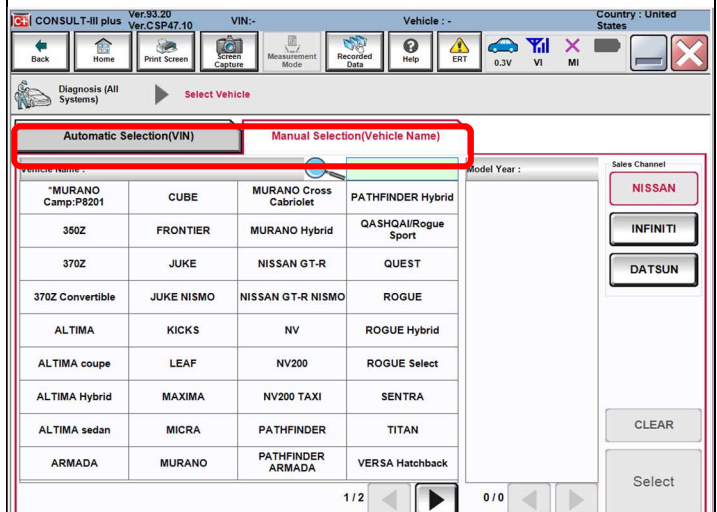

Figure 2
4. Select the vehicle using automatic or manual selection. (Figure 2)